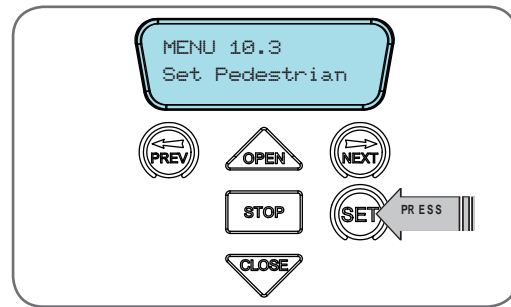

Fig 15.1
- Press SET on the wall control unit to save the Pedestrian Access position (**Fig. 15.1**).